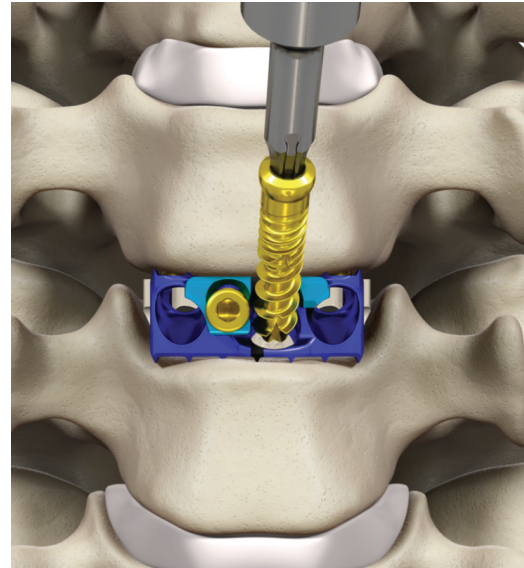

Figure 87
- Attach the inserter guide or use a general surgical instrument to remove the plate through the surgical opening. Next, remove the structural allograft/autograft through the surgical opening (Figure 87).